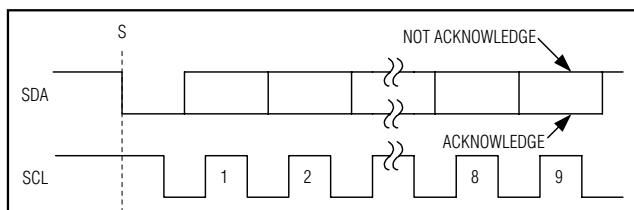

Figure 6. Acknowledge Bits
Data transfers are acknowledged with an acknowledge bit (A) or a not-acknowledge bit ( $\bar{A}$ ). Both the master and the MAX1236–MAX1239 (slave) generate acknowledge bits. To generate an acknowledge, the receiving device must pull SDA low before the rising edge of the acknowledge-related clock pulse (ninth pulse) and keep it low during the high period of the clock pulse (Figure 6). To generate a not-acknowledge, the receiver allows SDA to be pulled high before the rising edge of the acknowledge-related clock pulse and leaves SDA high during the high period of the clock pulse. Monitoring the acknowledge bits allows for detection of unsuccessful data transfers. An unsuccessful data transfer happens if a receiving device is busy or if a system fault has occurred. In the event of an unsuccessful data transfer, the bus master should reattempt communication at a later time.